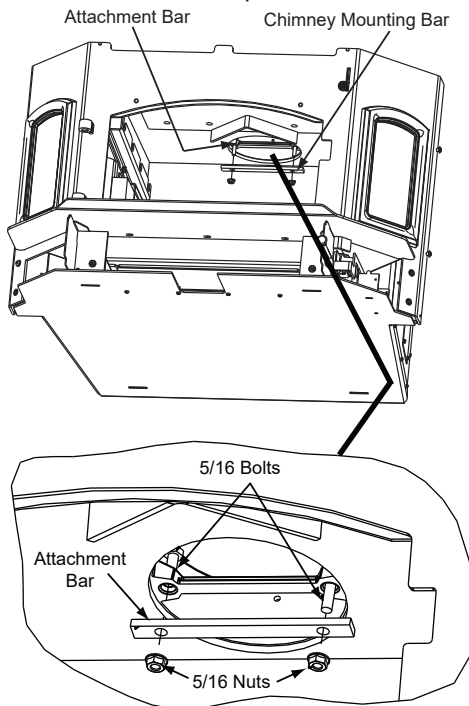

Figure 19.2
1. Once you have the appliance in place and secured, reach up through the flue opening and grab the attachment bar and pull down inside flue opening (**Figure 19.2**).